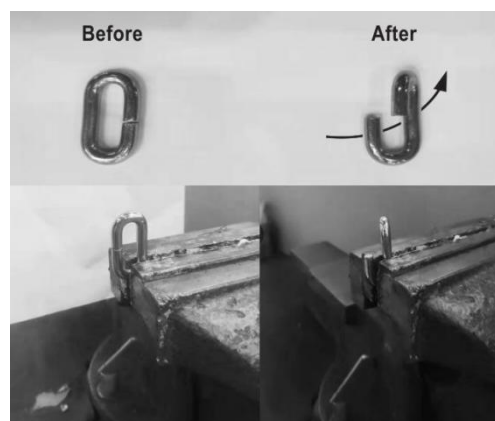

Figure 9
5. Using an adjustable wrench, twist the link horizontally from front to back. (Figure 9) Open just far enough to insert (or remove) a second chain link.